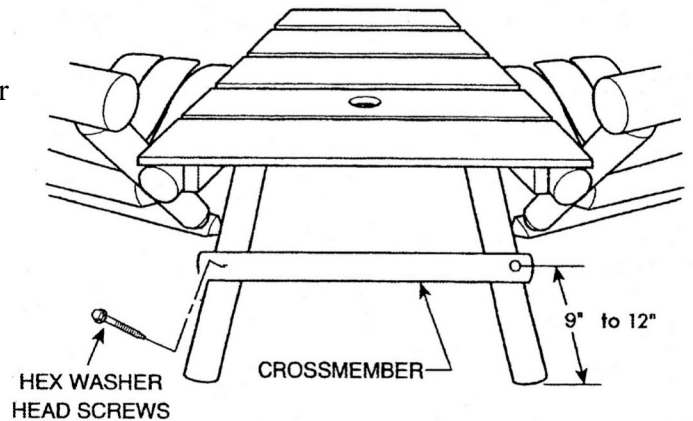

figure 10
STEP 9 Attach the chair cross-member using two 3" hex washer head screws. Align the crossmember from 9" to 12" from the bottom of each inside back leg so that the hex washer head screws are centered on each leg. See figure 10